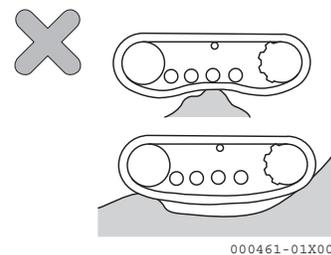

Fig. 3-66
- The three cases illustrated above are those which could cause the rubber crawlers to loosen. In addition, do not subject the machine to such ground conditions as are illustrated in the figure on **Fig. 3-66**.